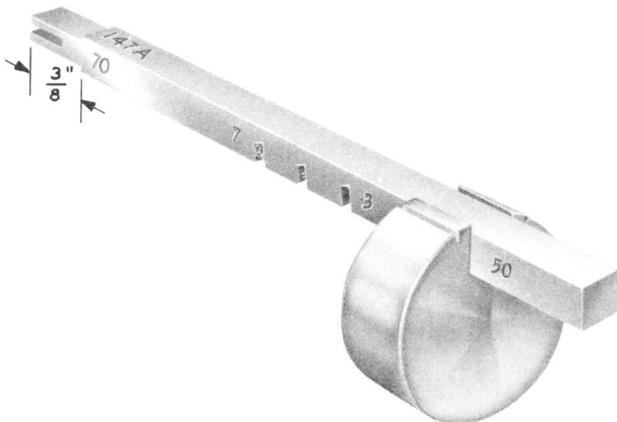

Fig. 6 - 147A Gauge
**4.06** Trap, vane, and relay should restore fully to their unoperated positions against a torque of 70 gram-inches applied to relay operating arm with a 147A gauge (see Fig. 6 and 7). Test as follows: